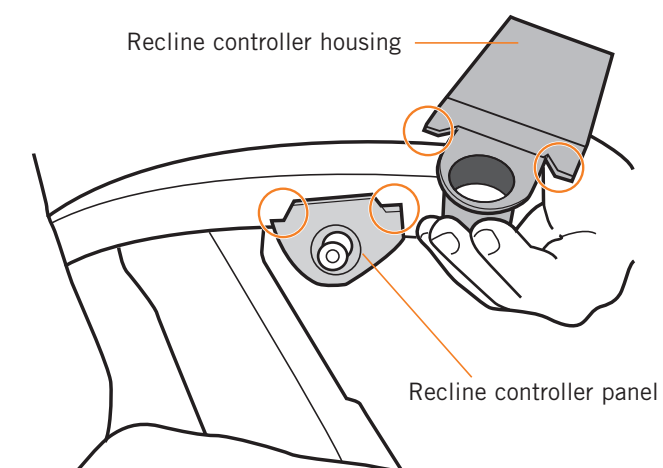

Fig.15
2. Note the shape of the top of the recline controller panel and the matching shape of the recline controller housing (Fig.15).